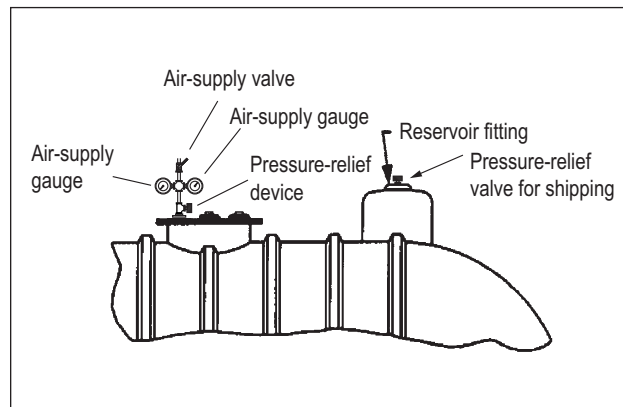

FIGURE 3-5
3.4.1.6. Install the test manifold in the open service fitting. Connect the pressure source to the test manifold. (See FIGURE 3-5.)